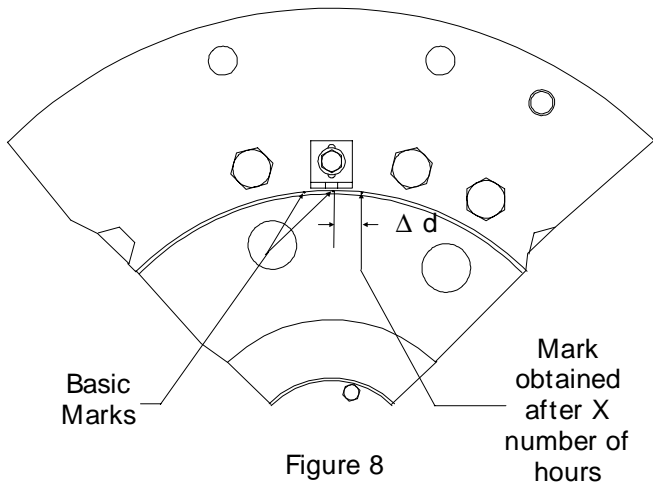

Figure 8
- 2.6.5 Eventual wear at the ends of the long spring leaves or at the splined hub groove flanks will likely appear in the forward direction. The angular amplitudes in this direction can, therefore, increase after hours of service. The difference between the latest mark obtained and the "basic mark" is proportional to the existing wear. Refer to Figure 8.
Δd = Difference of marks between the "basic mark" and the latest measurement. See Figure 8.